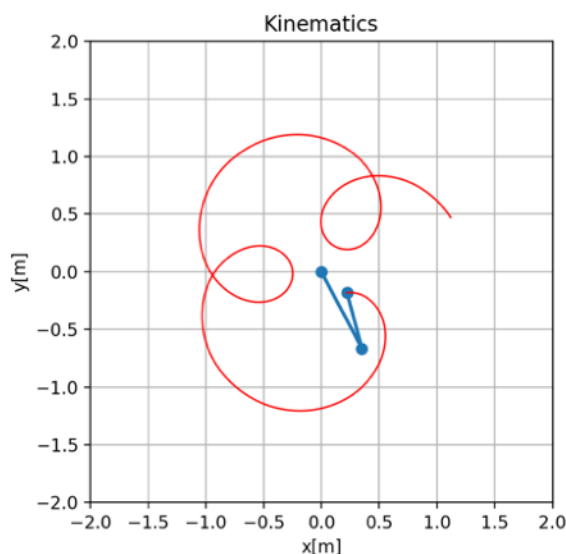

Fig 1. Simulation of a planar robot.
The goal of the exercise is to implement a kinematic simulation of a planar robotic manipulator, based on the skeleton code (attached to the instruction) and the knowledge obtained during Lab 1. The missing parts of the program include a function implementing the Denavit-Hartenberg formulation and the function used to update the position of the robot's links, based on the transforms computed by the former. A screen capture of an exemplary simulation output is presented in Fig. 1.
- 3) Plot presenting the visualisation of the robot structure in motion (see Fig. 1).
- 2) Plot presenting the visualisation of the robot structure in motion (see Fig. 1).